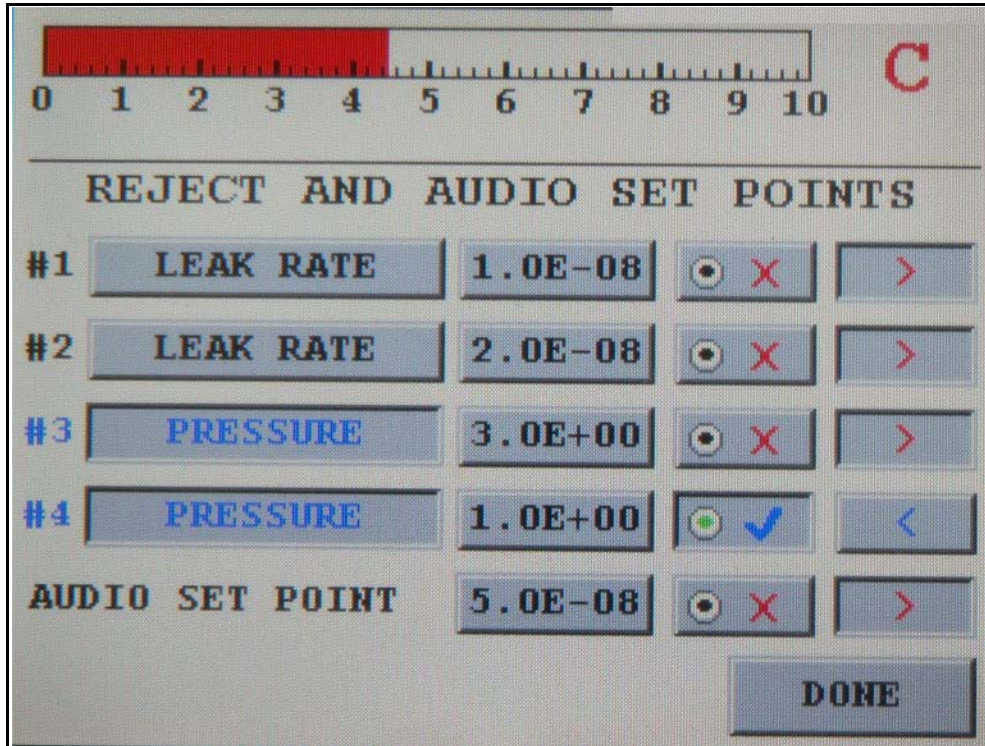

Figure 2-8 Reject and Audio Setpoints
The Reject and Audio Set Points screen appears (Figure 2-8 on page 2-26). Use this screen to:
- ❑ There are four possible reject set points in Figure 2-8 on page 2-26: